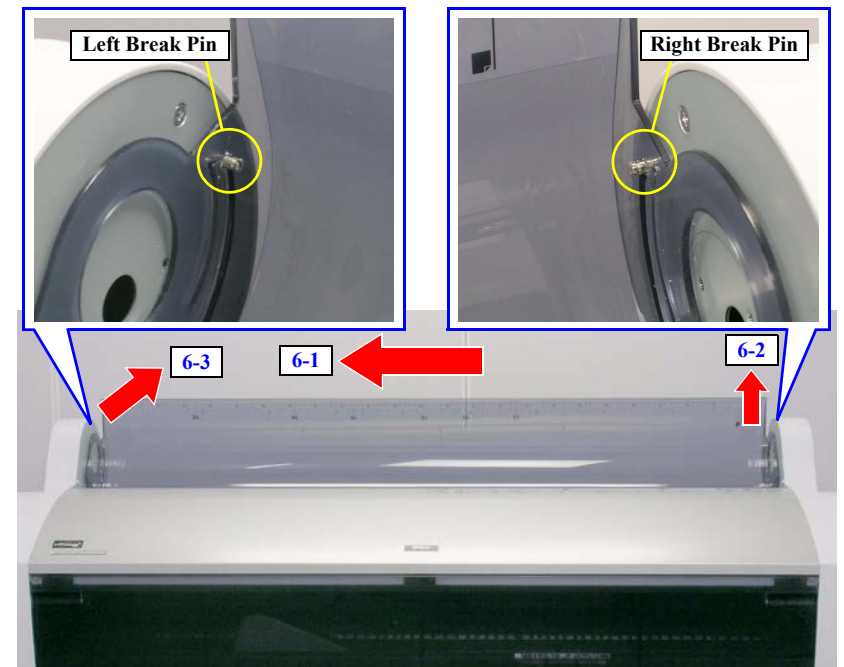

Figure 4-32. Removing the ROLL TOP COVER
- Press the ROLL TOP COVER to the left side to release its right end from the right break pin, and remove the ROLL TOP COVER releasing its left end from the left break pin. See Figure 4-32.